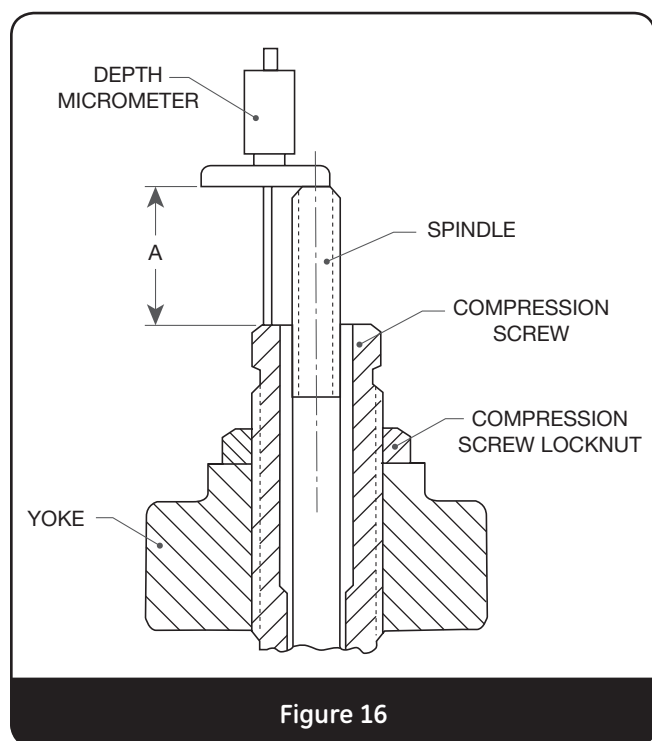

Figure 16
26. Refer to Figure 16 and establish Dimension A to that previously recorded in Section XI.B.4 of "Disassembly."